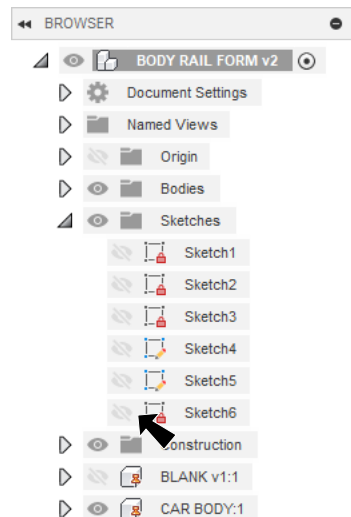

Fig. 35
Step 4. In the Browser, **Hide**  **Sketch6**, **Fig. 35**.